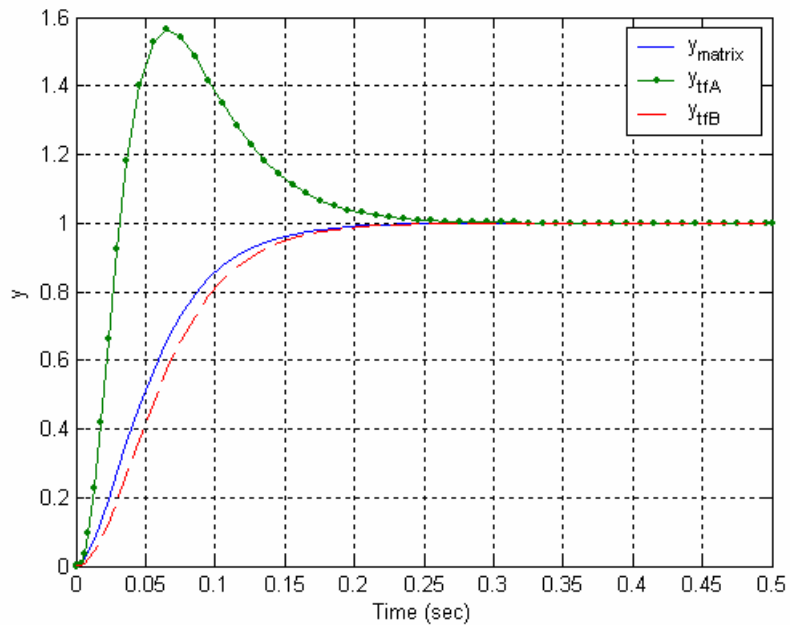

Figure 2. Results for Problem 3d.
d) Copy your observer/controller from part (a) to new files (Copy both the Matlab and Simulink files.). In addition to this state space based model, implement an observer/controller transfer function as suggested on page 869 of the text (Program 12-8) for both types of configurations above. Assume for all systems that the closed loop state feedback poles are at $\mathbf{p} = [-30 \ -40]$ and the observer poles are at $3\mathbf{p}$. Assume all initial states are zero. Note that you do not need to write your model of the plant as a transfer function (you can leave it as a state space model), though the observer/controller transfer function should be written as a transfer function. Be sure to include the proper prefilter. You should get results like those displayed in Figure 2. Turn in your plot and Matlab/Simulink code.